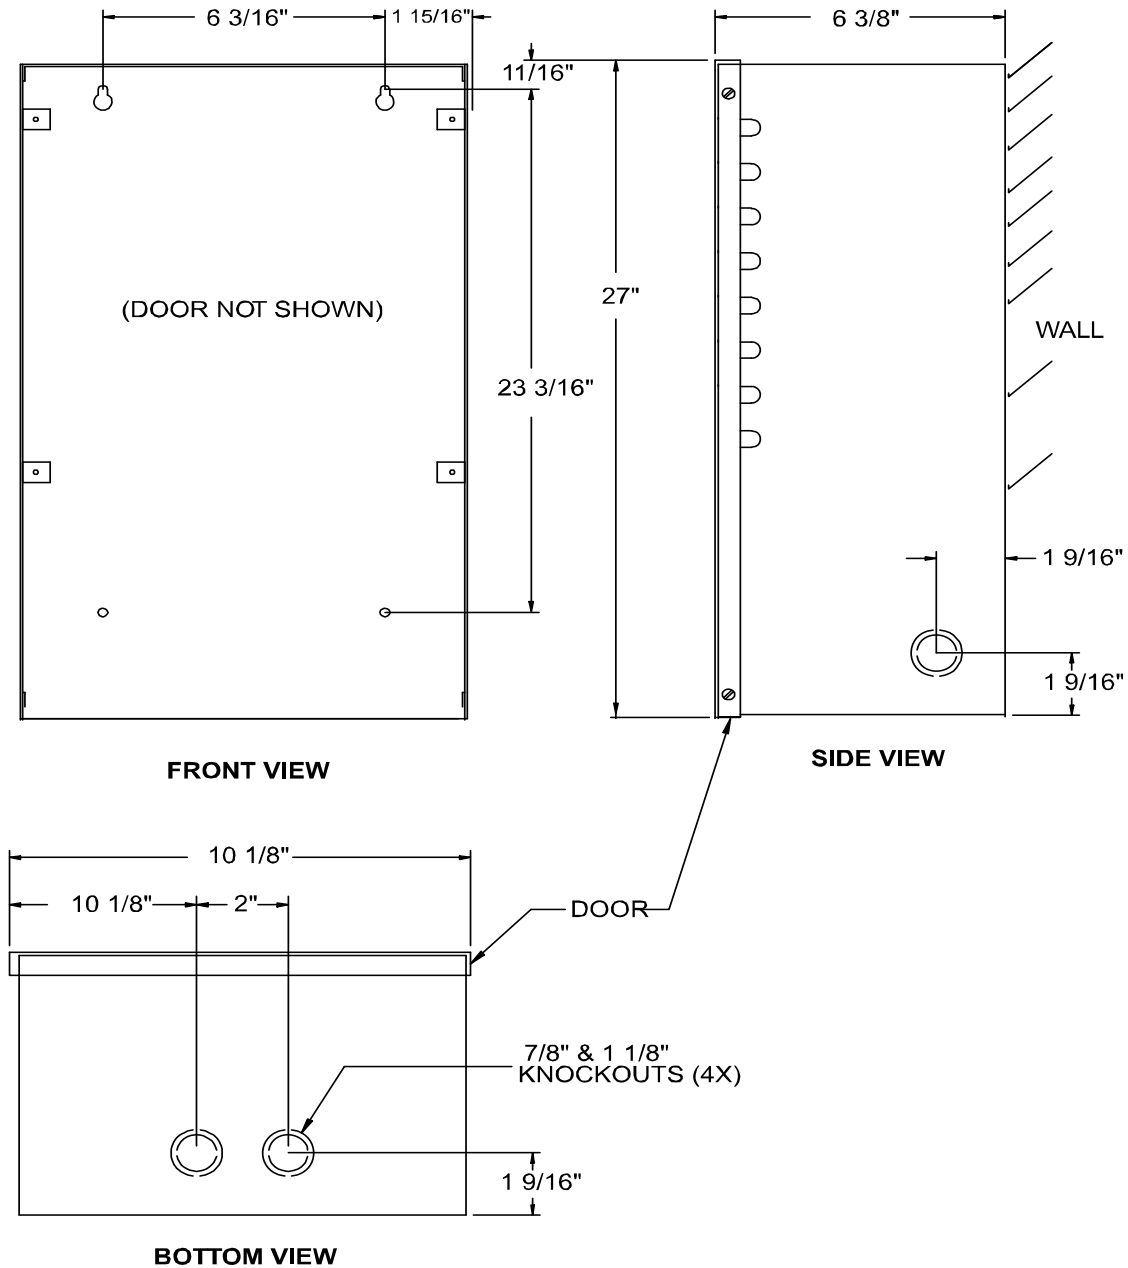

Figure 30. Elevator Relay Cabinet
1. Using the back cover as a template mark the top two mounting hole locations 6 3/16 inches apart as shown in Figure 30.